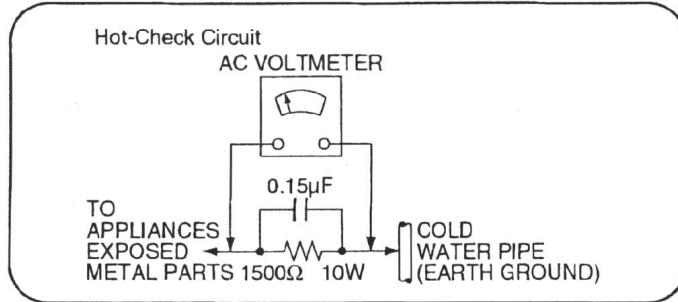

Figure 1
1.1.2. Leakage Current Hot Check (See Figure 1)
- Connect a $1.5k\Omega$, 10 watts resistor, in parallel with a $0.15\mu F$ capacitors, between each exposed metallic part on the set and a good earth ground such as a water pipe, as shown in Figure 1.